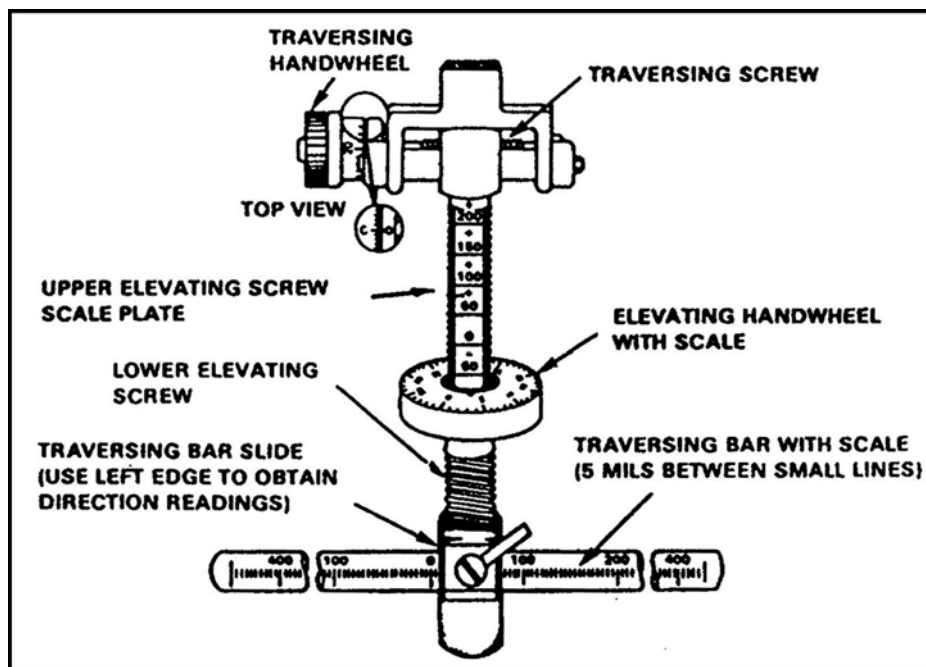

Figure 4. Traversing and elevating mechanism.
- (1) Lay the gun on the base of the target.
- (2) Read the direction on the traversing bar at the left edge of the traversing bar slide (Figure 4).
- (3) Determine by the direction of the barrel whether the reading is right or left.
- (1) Lay the gun on the base of the target by rotating the elevating handwheel (Figure 4).
- (2) Read the number (including a "+" or "-" sign, unless the number is "0") above the first visible line on the elevating scale. (In Figure 4, this reading is "-50.")
- (3) Read, from the elevating handwheel, the number in line with the indicator. (In Figure 4, this reading is "3.")
6. Record the data you found using the T&E mechanism (Figure 4).